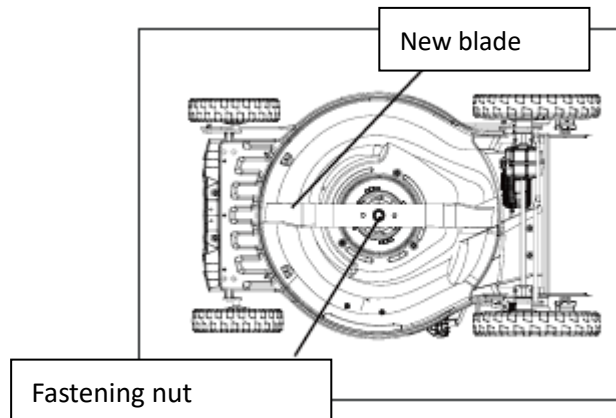

Fig. 16
- Insert the new blade in the same position and secure it with the original fastening nut. (Required tightening torque: 20–25 N·m) (see Fig. 16)